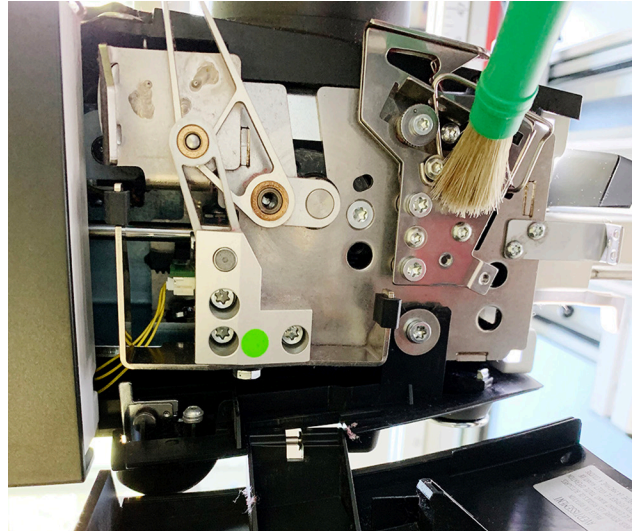

Fig. 2
5. Brush the lint from behind the front door (Fig. 2). A larger brush may work more efficiently than the smaller one used in the bobbin area.